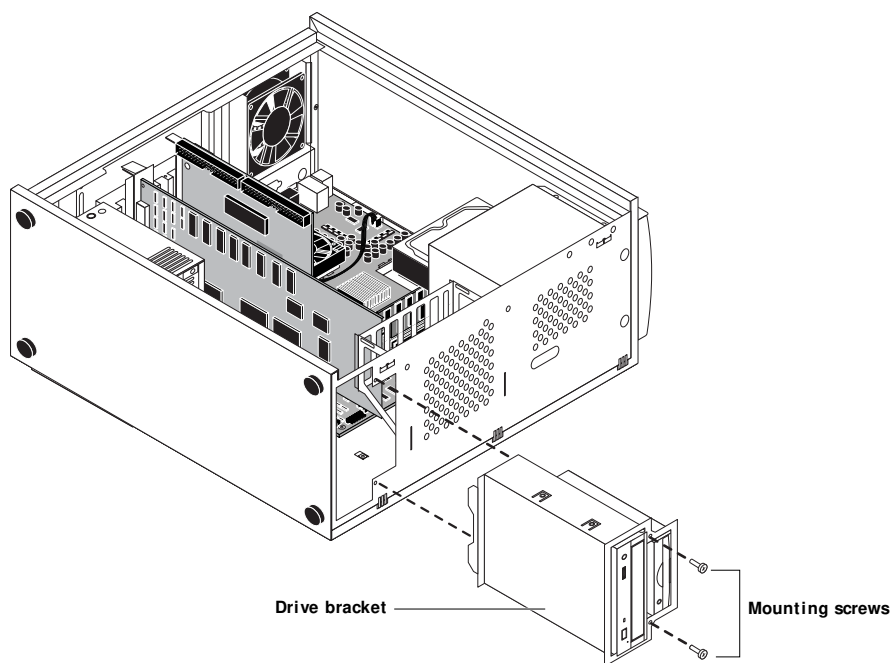

FIGURE 4-29 Removing/replacing the drive bracket
4. Replace the two screws on the front of the chassis that secure the drive bracket to the chassis (see Figure 4-29 on page 4-60).